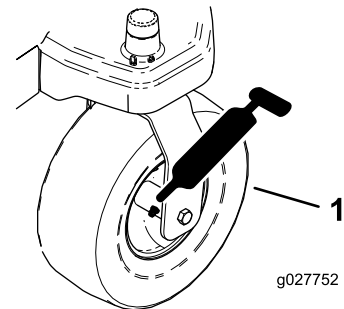
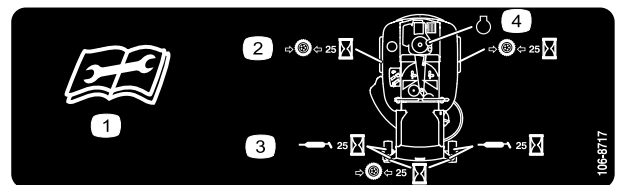

Figure 37
Figure 38
3. Clean the grease fittings (Figure 37 and Figure 38) with a rag.
4. Connect a grease gun to each fitting (Figure 37 and Figure 38).